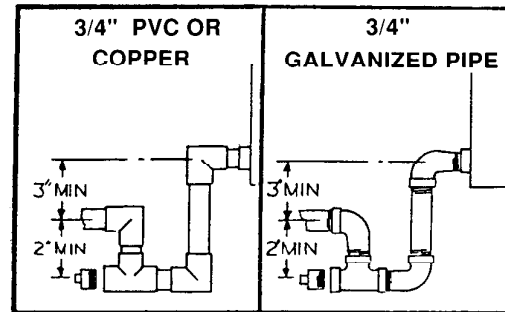

Fig. 1
Condensate drain must consist of a minimum of $\frac{3}{4}$ in. copper tubing or $\frac{3}{4}$ in. galvanized iron pipe or PVC-type plastic pipe. (**Fig. 1.**) The condensate drain trap must be properly designed to ensure the removal of condensate (Incorrect trapping can hold water in pan causing overflow.) Be sure drain pitches downward at a slope of one inch every 10 feet.
1. Cut off the ends of the stub-out tubes near the location of the dotted line. (See Figure 1 & 2)